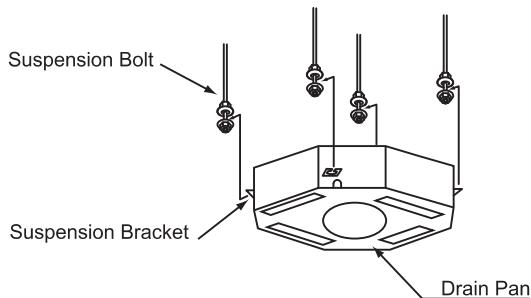

Fig. 3.8 Mounting the Indoor Unit
(2) Lift the indoor unit by hoist, and do not apply any force on the drain pan.
(3) Secure the indoor unit using the nuts and washer, as shown in Fig. 3.8.